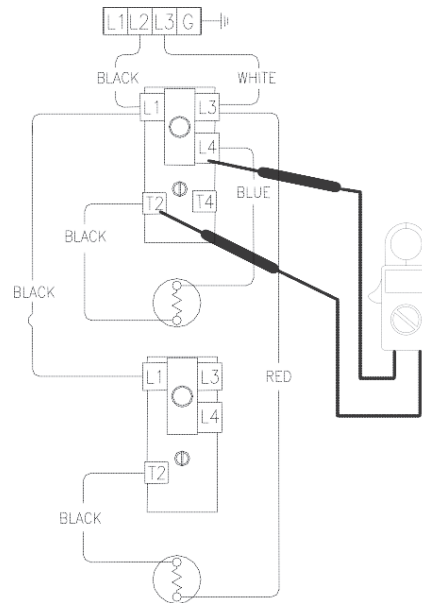

Figure 39
5. Check across terminals L4 and T2 of upper thermostat (see Figure 39).